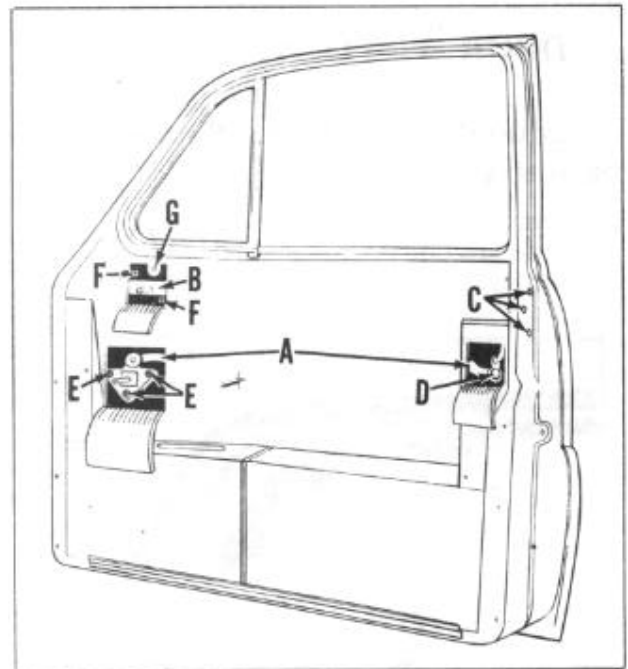

FIGURE 7
4. Cut hole in door inner liner as shown at (B) in Figure 7, to expose clevis (G) connecting wing to regulator and remove screw from clevis.
2. Cut door inner liner at (B), Figure 7.
4. Remove two screws (F) attaching regulator to door inner panel and remove regulator down and out through opening in bottom of door inner panel.
4. Cut door inner liner at (A), Figure 7, and disconnect remote control arm from lock at (D).
6. Remove three large Phillips head screws (C) from edge of door and remove lock assembly down and out through lower opening in door inner panel.